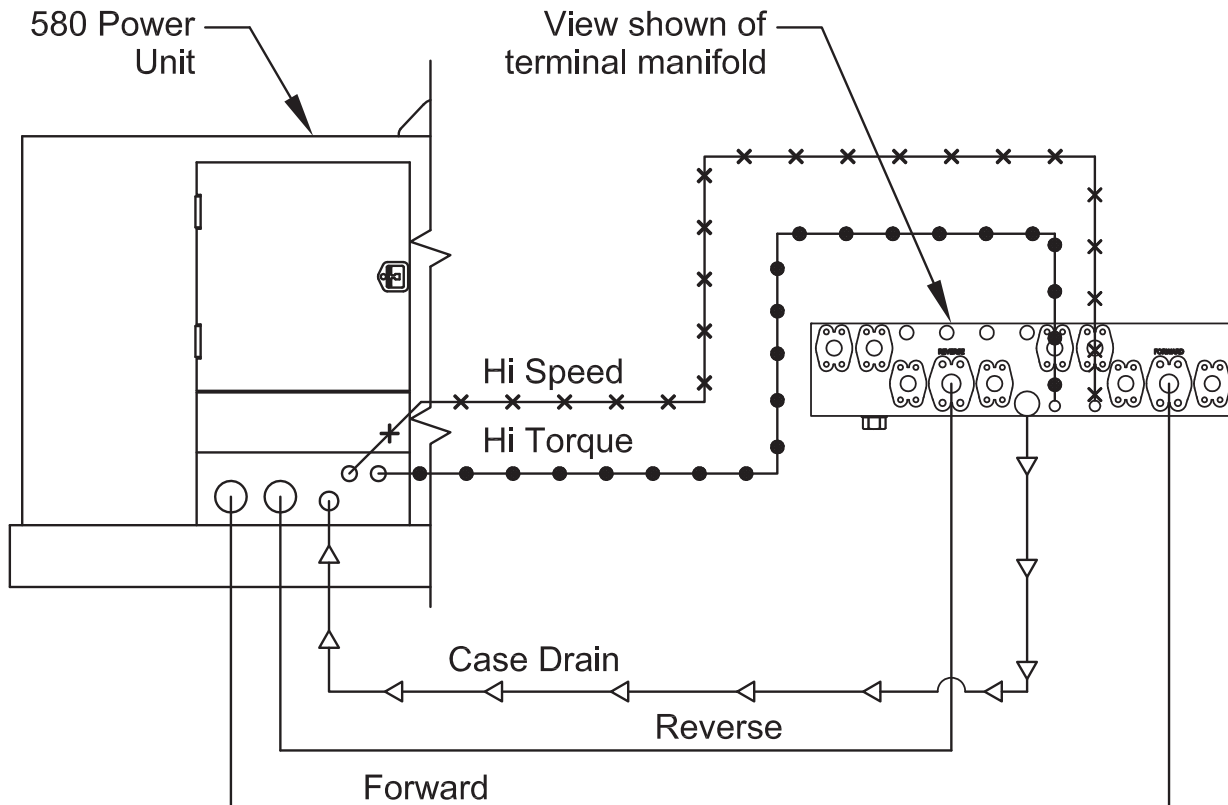

Fig.2
a. The auger is connected to the power unit by five hydraulic hoses (Fig. 2) on the previous page.
b. The hoses connect to the power unit with quick-disconnect couplers. Hose couplers are arranged to insure correct connections at the power unit. See the diagram (Fig. 2) for correct hose connection.
a. The auger is usually shipped with the hoses attached to the auger. If the hoses have been shipped separately, they must be connected in the field. Fig. 2 shows the correct arrangement of the five hoses connecting the power unit to the auger.